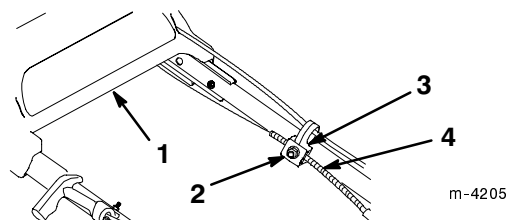

Figure 26
3. Loosen the cable support nut (Fig. 26).
6. Pull the cable jacket down (toward the lawn mower) to remove all the slack in the cable (Fig. 26).
7. While holding the cable jacket in place, release the drive bracket and tighten the nut on the cable support (Fig. 26).